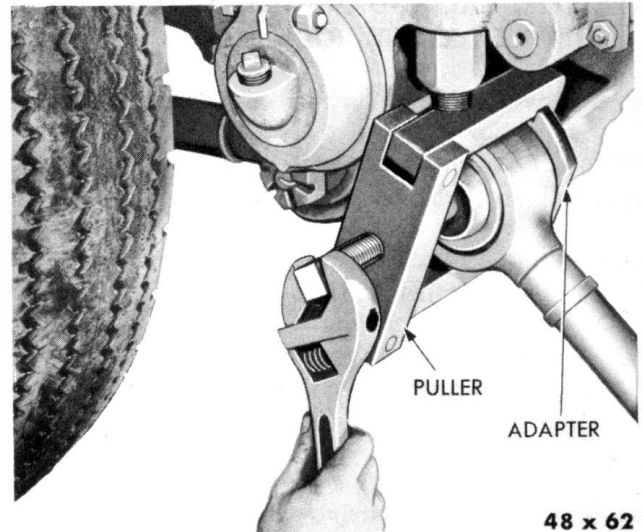

Fig. 136—Removing Lower Torque Rod from Trunnion Bracket—Puller DD-1090
- (1) Jack the frame up just enough to relieve the spring load.
- (2) Remove outer trunnion bracket torque rod pin nut.
- (3) Install a suitable puller, as shown in Figure 136 and remove the torque rod.
- (1) Remove the small torque rod pin nut from the axle housing bracket side of the pin.
- (2) Install a suitable fork type tapered wedge, as shown in Figure 136, drive the wedge in between the lower bracket and the shoulder of the pin until the pin and the torque rod can be removed as one unit.